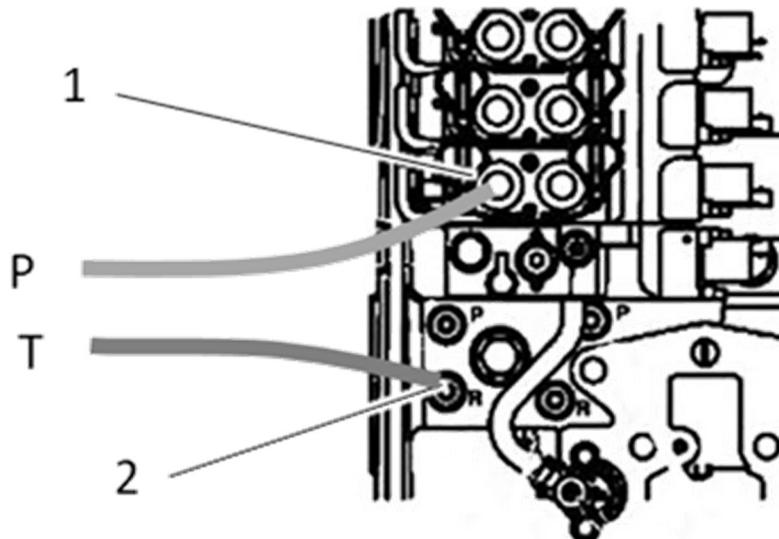

Figure 14: Hydraulic connection
The 2430 harvester requires a continuous adjustable hydraulic flow from the tractor to operate correctly. Only two lines are required, 'P' (flow/pressure) and 'T' (Tank/Return). A reverse connection is prevented by a check valve in the harvester hydraulic valve manifold. Ideally, connect the tank line (T) to a motor return port on the tractor (often used for hydraulic motor return on planters or sprayers), that offer a low flow resistance. Do NOT use a case drain port, since these are not filtered and designed for very low flow. If no return port is available, contact your local tractor service provider to install one. Figure 14 shows a typical example of proper hydraulic connection.